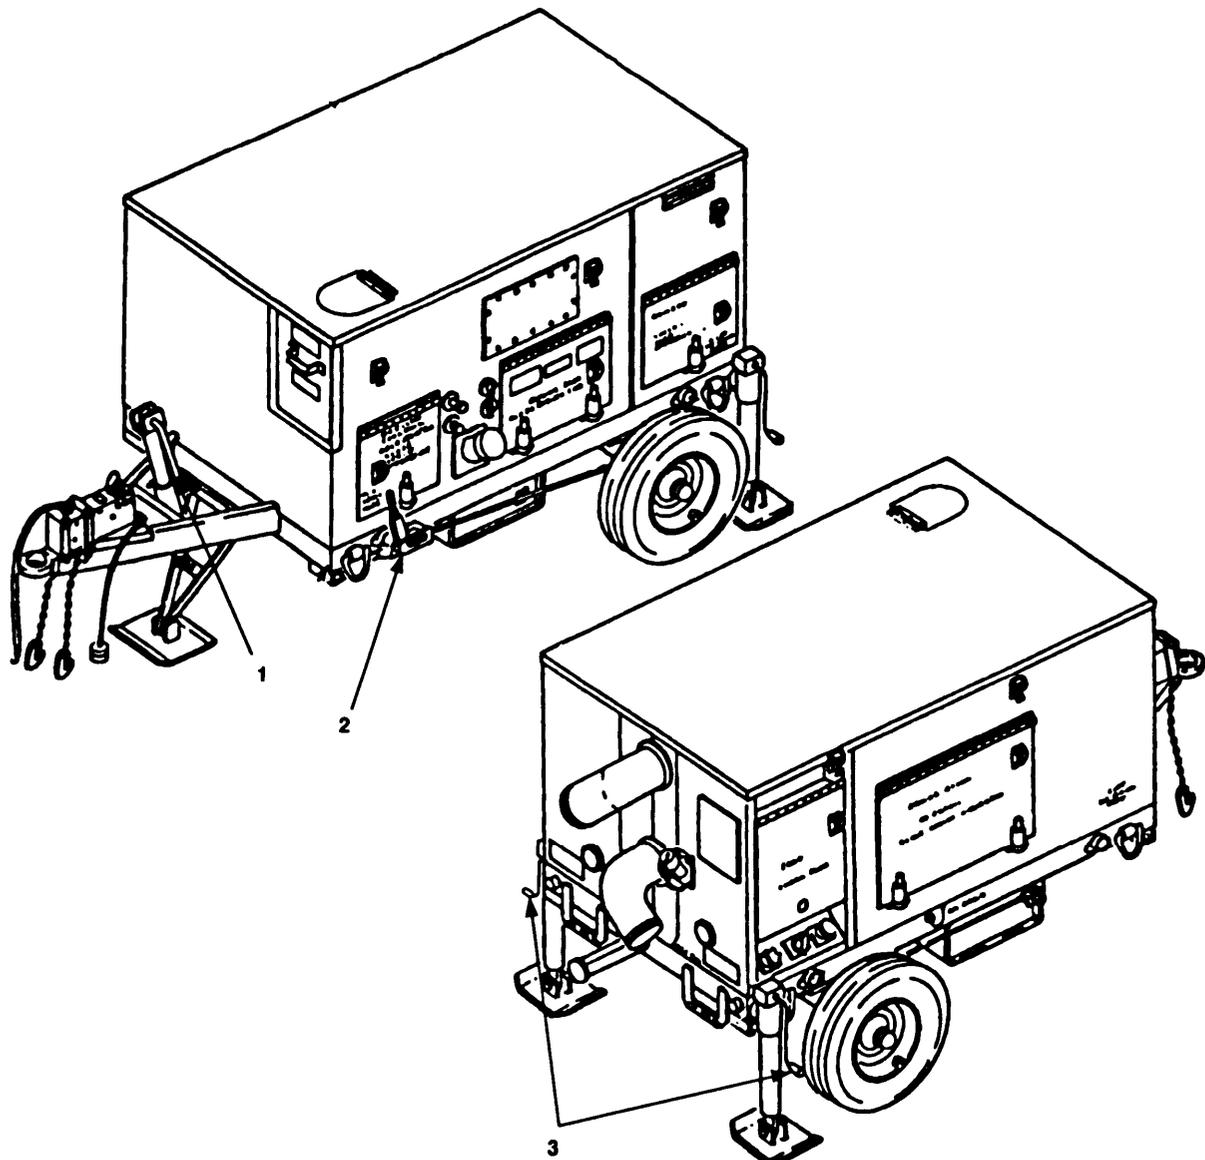

Figure 2-7. Model 609-C Trailer Controls.
2.1.2.5 Trailer. Refer to Figure 2-7 and Table 2-7.